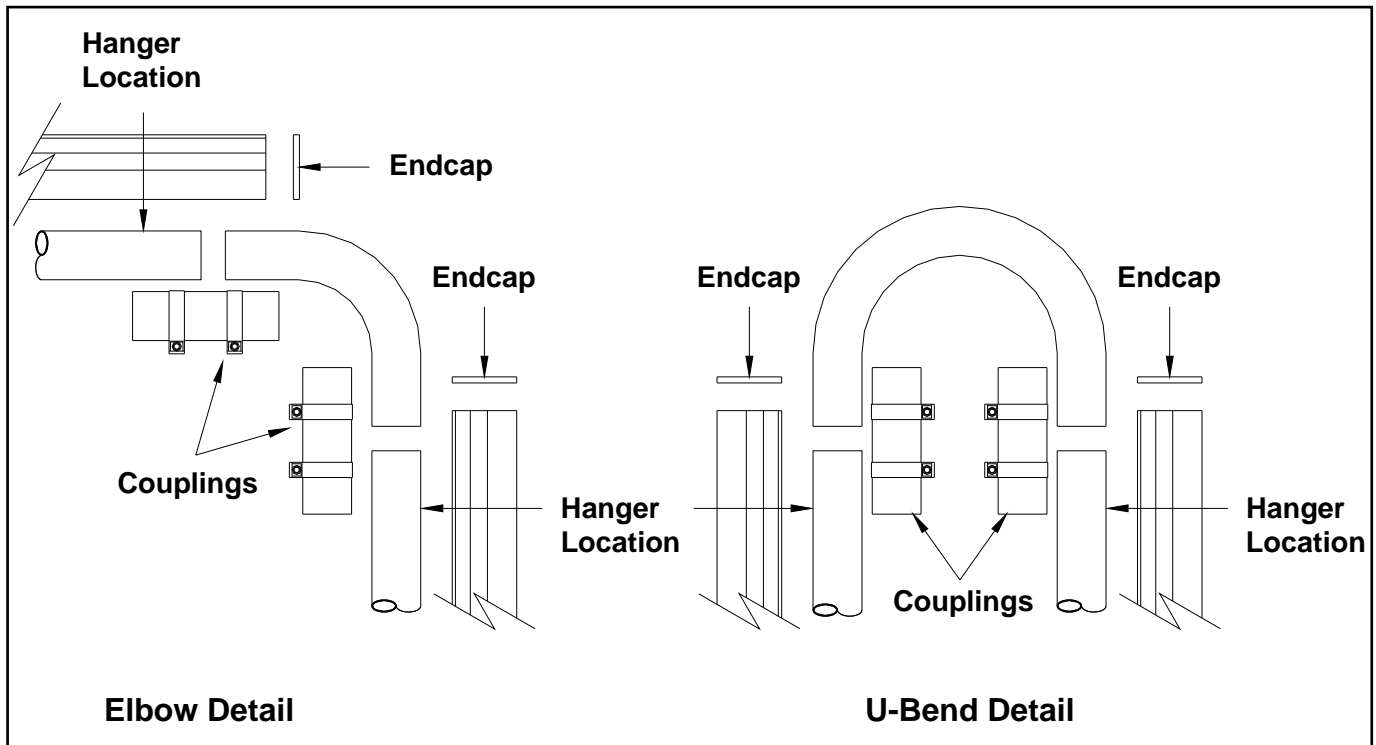

Figure 18: 90° Elbow and U-Tube Assembly Detail
- If required by the heater layout, install 90° elbows or U-tube where indicated. Refer to Figure 18 for details.